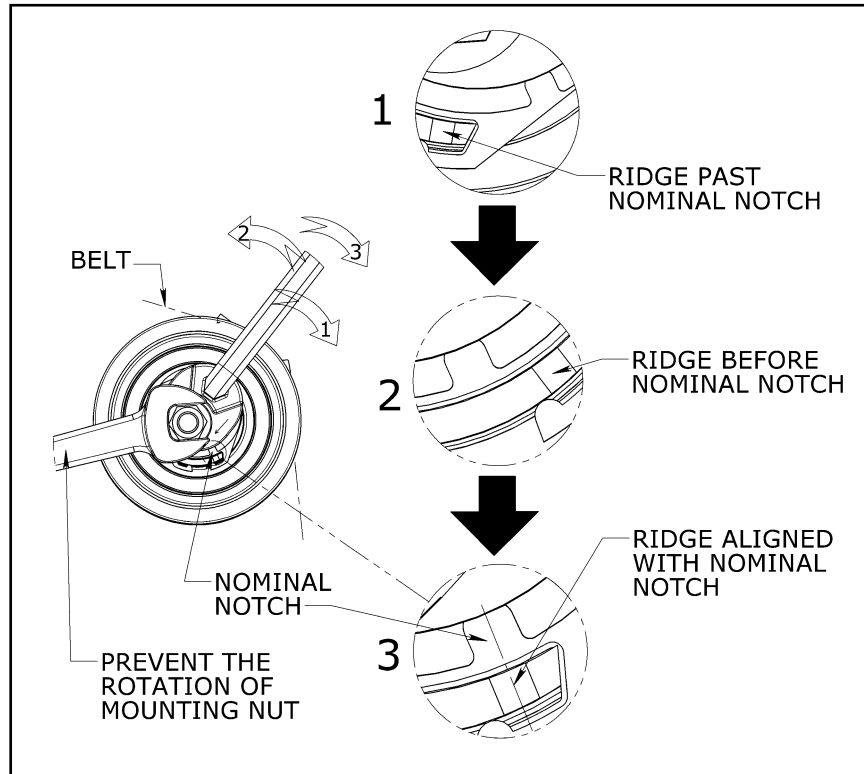
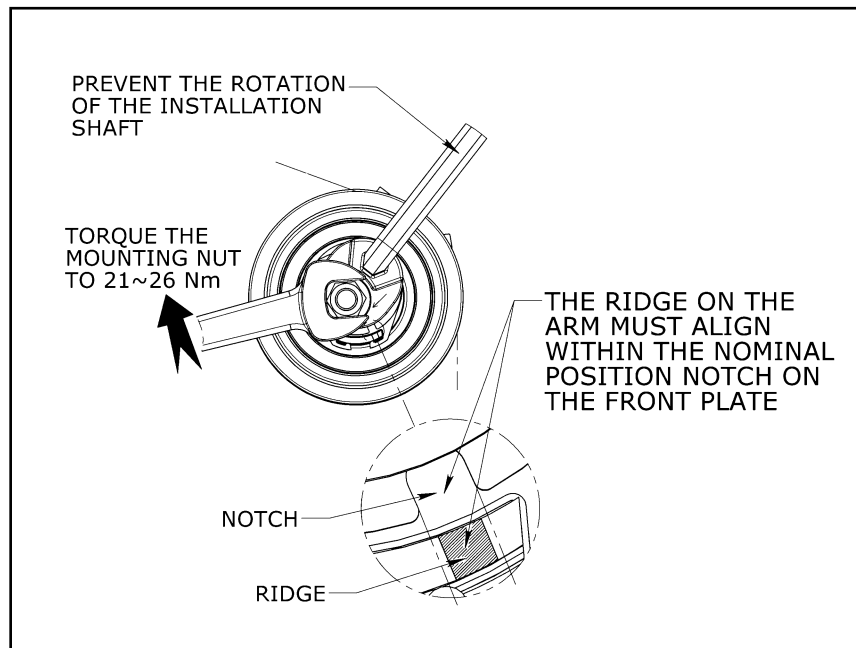

Figure 4: Tensioner Cycled before setting to Nominal Position
Figure 5: Tensioner Torqued at the Nominal Position
9. Continue rotating the installation shaft in the clockwise direction **1** (Fig. 4) so that the ridge passes the nominal notch and stops at load stop as shown in Detail **1** (Fig. 4). Then rotate the installation shaft in the counter-clockwise direction **2** (Fig. 4) to have the ridge pass the nominal notch and stop as shown in Detail **2** (Fig. 4). After cycling the tensioner as mentioned, rotate the installation shaft
in the clockwise direction **3** only (Fig. 4) so the ridge aligns within the edges of the nominal notch as shown in Detail **3** (Fig. 4).
10. Once the nominal position is achieved, prevent the rotation of the installation shaft and torque the mounting nut to **21~26 Nm** (Fig. 5).
If the 2 edges of the arm Alignment Ridge is within the Alignment Notch on the front plate (Fig. 5), the tensioner is set at its nominal position and the installation is complete.
15. Prevent the mounting nut from rotating and cycle the installation shaft so that the ridge cycles around the nominal position (Fig. 4) and then rotate the Installation Shaft CLOCKWISE only until the arm Alignment Ridge moves clockwise to align within the Notch on the front plate (Fig. 5).